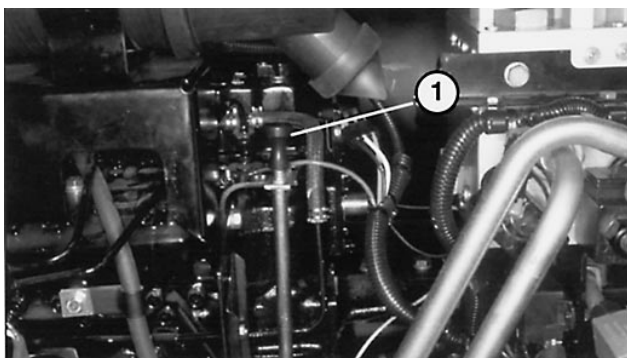
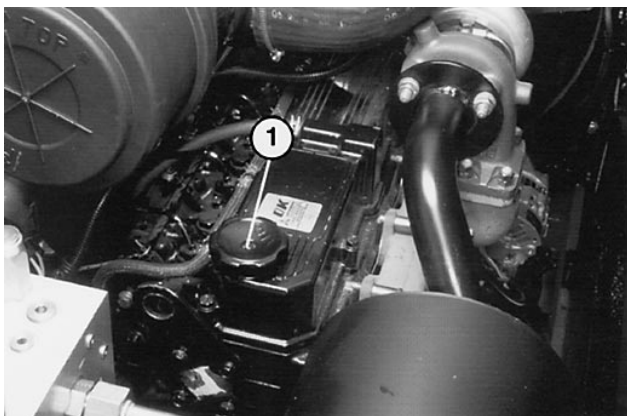

Figure 3
Figure 4
- Remove the dipstick, wipe it with a clean cloth (Fig. 3) and insert it into the tube until it is fully seated. Remove the dipstick from the tube and check the oil level. If the oil level is low, remove the filler cap (Fig. 4). Add oil until the level is to the top notch on the dipstick. **DO NOT OVERFILL.**